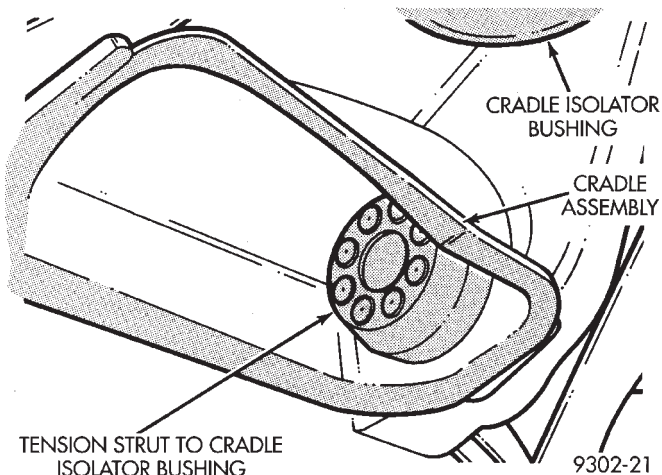

Fig. 35 Tension Strut Bushing Installed In Cradle
(3) Remove the tension strut to cradle isolator bushing from the cradle assembly. Install replacement tension strut to cradle isolator bushing into cradle, until squarely seated against cradle assembly (Fig. 35).